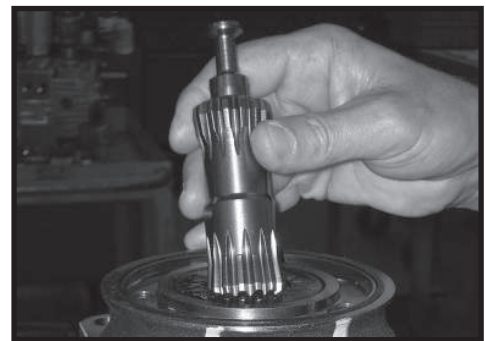

Figure 17
**NOTE:** If rotor set (8) has two stator halves (8B & 8D) and two sets of seven vanes (8C & 8E) as shown in the alternate construction TG rotor set assembly view, check the rotor lobe to roller vane clearance at both ends of rotor.
- Remove drive link (10) from coupling shaft (12) if it was not removed with rotor set and wear plate. Inspect drive link for cracks and worn or damaged splines. No perceptible lash (play) should be noted between mating spline parts. SEE FIGURE 17. Remove and discard seal ring (4) from housing (18).